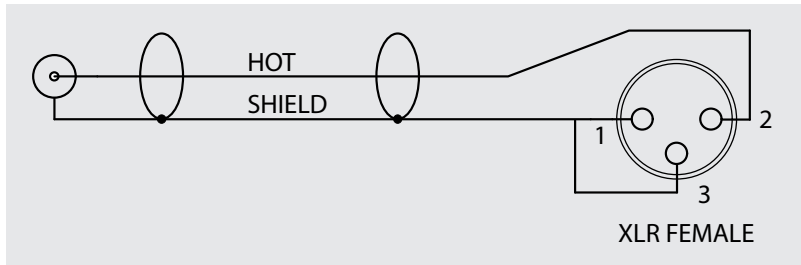

figure 2 - Unbalanced Output
4. Set the generator output level to approximately -20dBu (0.077vrms) @1KHz. If the generator has an unbalanced output, refer to **figure 2** below for termination information.